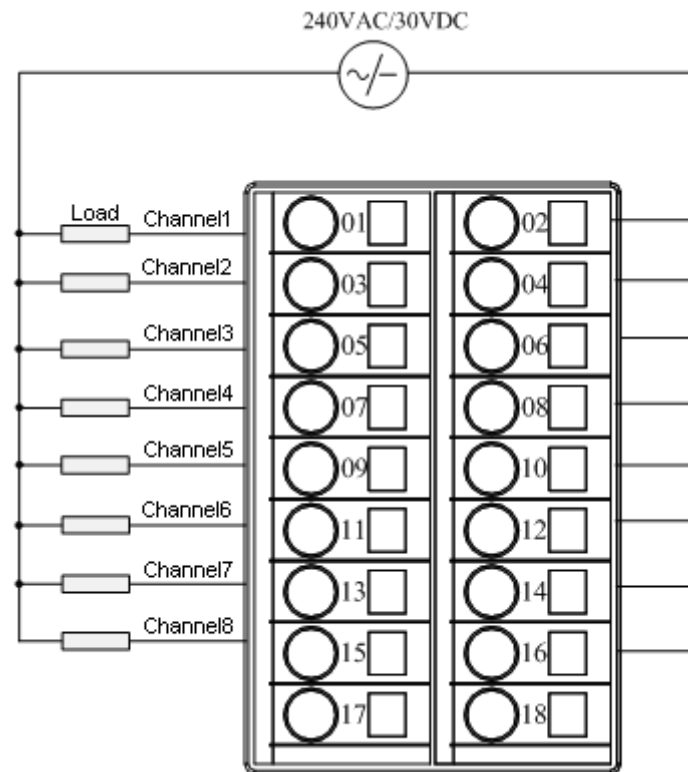
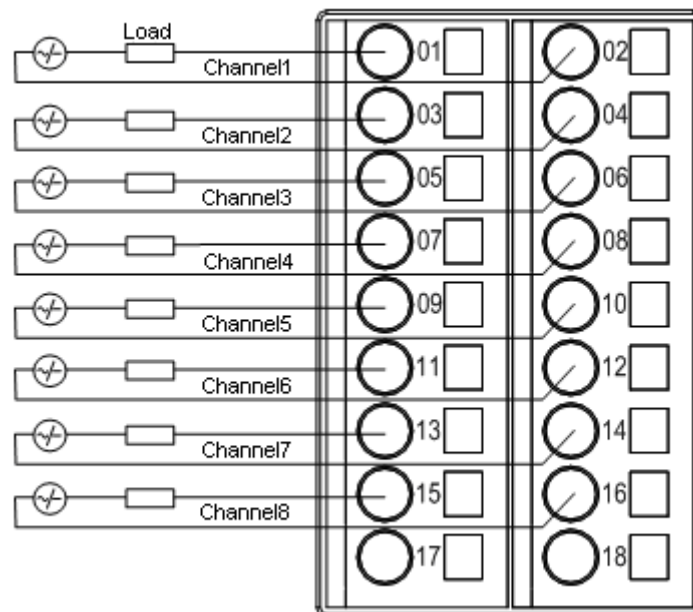

Figure 9.39: Wiring of LK720 Backplane Terminals with Single Power Supply
Figure 9.40: Wiring of LK720 Backplane Terminals with Multiple Power Supply
- LK720 module is wired through the correspondence terminals under the local backplane installation slot. The relationship between each channel and terminal is shown in Figure 9.39 and Figure 9.40. The 8 channel outputs can share a field power supply when there is no isolation between channels. They can also connect to separate field power supplies when the channels are isolated from each other.